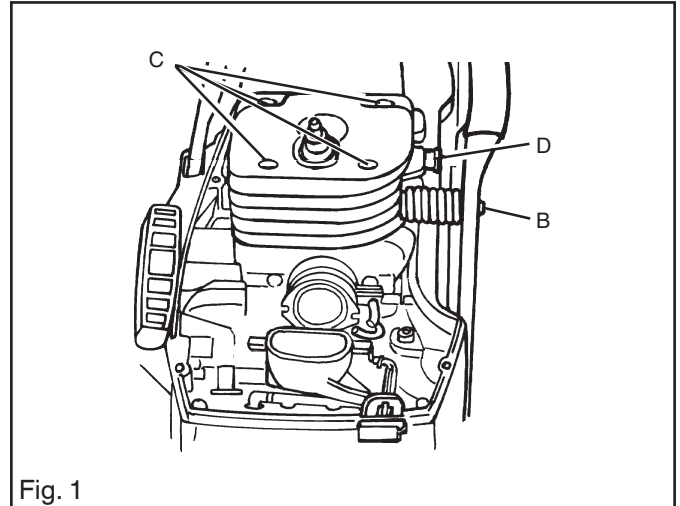

Fig. 1
2. Unscrew the anti-vibration spring (B) from the cylinder. See fig. 1.
3. Unscrew the four bolts on the cylinder (C). See fig. 1.
8. Unscrew the decompression valve (D). See fig. 1.